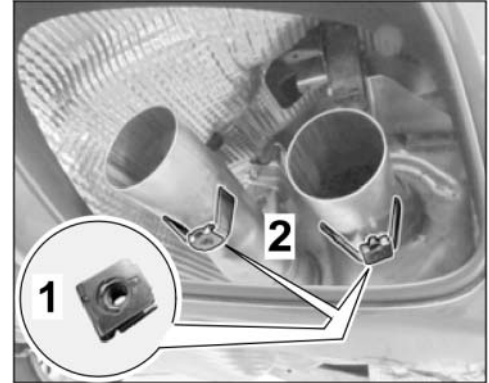

Figure 26
3.4.1 Install new speed nut (M6 x 19.5 x 18 – VW602 49, 2 x) on holders on exhaust pipes of new rear silencers (left/right ⇒ *Figure 26*).